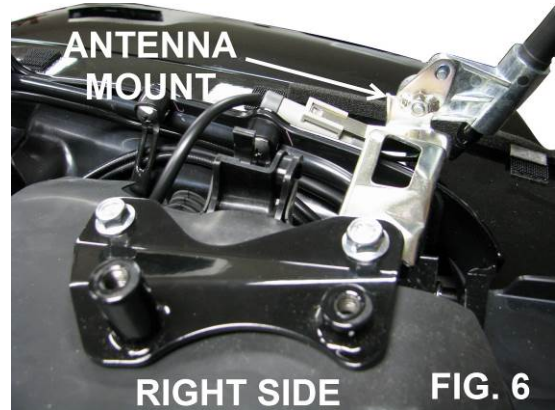

FIG. 6
9. STARTING ON THE RIGHT SIDE TAKE THE RIGHT SIDE MOUNT AND INSTALL IT AS SHOWN IN FIG. 6. USE ONE OF THE SPACERS PROVIDED UNDER THE MOUNT ON THE FRONT BOLT. THE BACK BOLT GOES THROUGH THE MOUNT AND THEN THROUGH THE ANTENNA MOUNT AND INTO THE BIKE. TIGHTEN BOTH BOLTS.